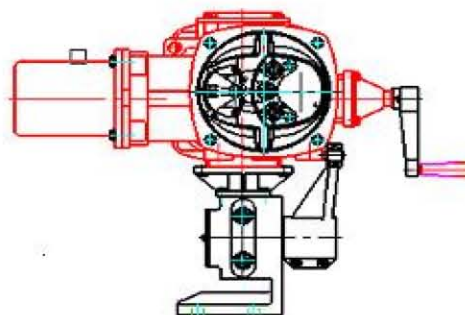

图2d
11. Electric implementing agencies(M8310/8410~30),when paired with the corner-type gearbox(with leverage A8005L~A8090L) , in order to prevent interference , prohibited according to the Fig.2c/Fig.2d with a ban " × " location of assembly ,in addition can be.